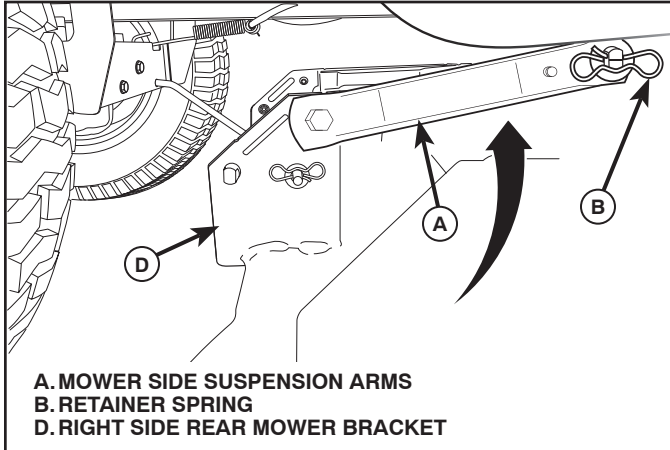

Fig. 30
## 6. ATTACH MOWER SIDE SUSPENSION ARMS (A) TO CHASSIS (See Fig. 30)
- Position front hole in side suspension arm (A) over pin on outside of tractor chassis and secure with large washer and large retainer spring (B).